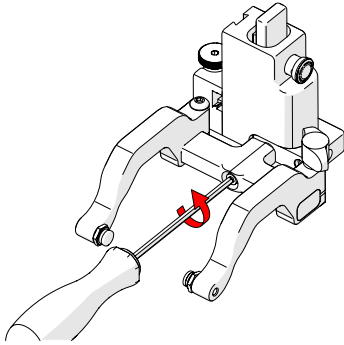

Fig. 42 - Remove yoke
1. Using the supplied 3 mm driver, unscrew the yoke (Fig. 42).
1. Remove the yoke using the supplied 3 mm driver (Fig. 42).